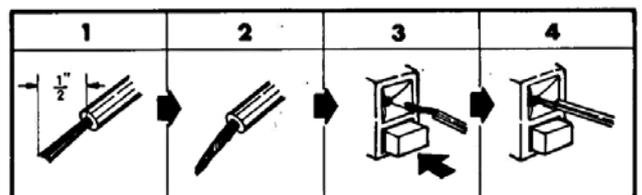

Fig. 2
1. Strip off the insulation of speaker lead wire about 1/2" from the end of it (Fig. 2).